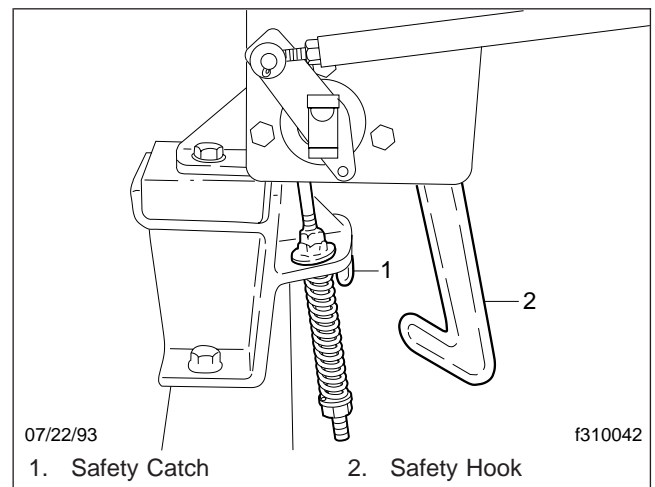

Fig. 10, Safety Catch Mechanism
7. After the safety hook has been raised above the safety catch (Fig. 10), let go of the release handle. Tilt the cab to a 30-degree angle.